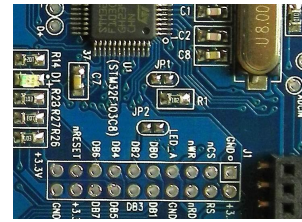

Fig. 4
- 1) Close the jumpers JP1 and JP2 (see Fig. 4) on the mainboard of DSO SHELL with solder. This will make the MCU enter bootloader instead of the main firmware at next power up.